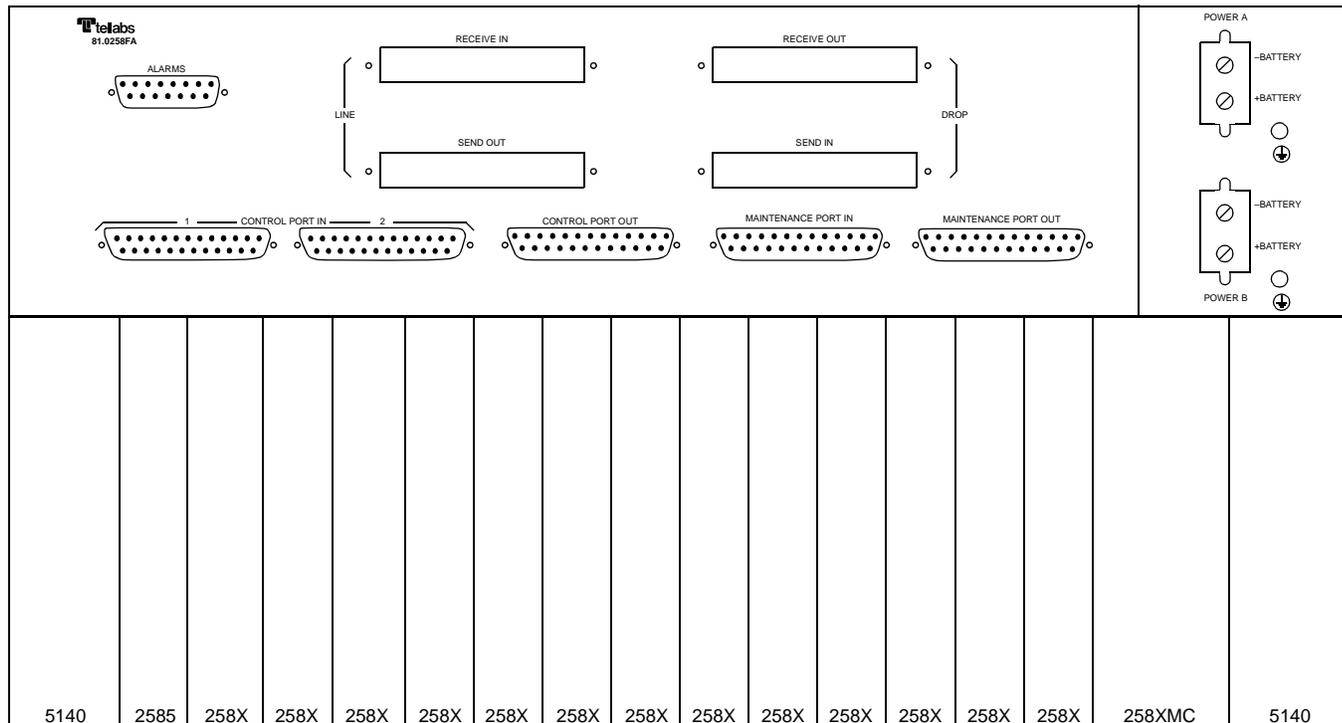

Figure 3-1 258FA mounting assembly connections
- 3.3 Figure 3-1 shows the 258FA mounting assembly's connections.
- 3.4 Input power connections to the 258FA mounting assembly are made from the front of the assembly to barrier-type screw terminal blocks labeled **POWER A** and **POWER B**. The terminal blocks provide connections for **-BATTERY** and **+BATTERY** (see Figure 3-1).